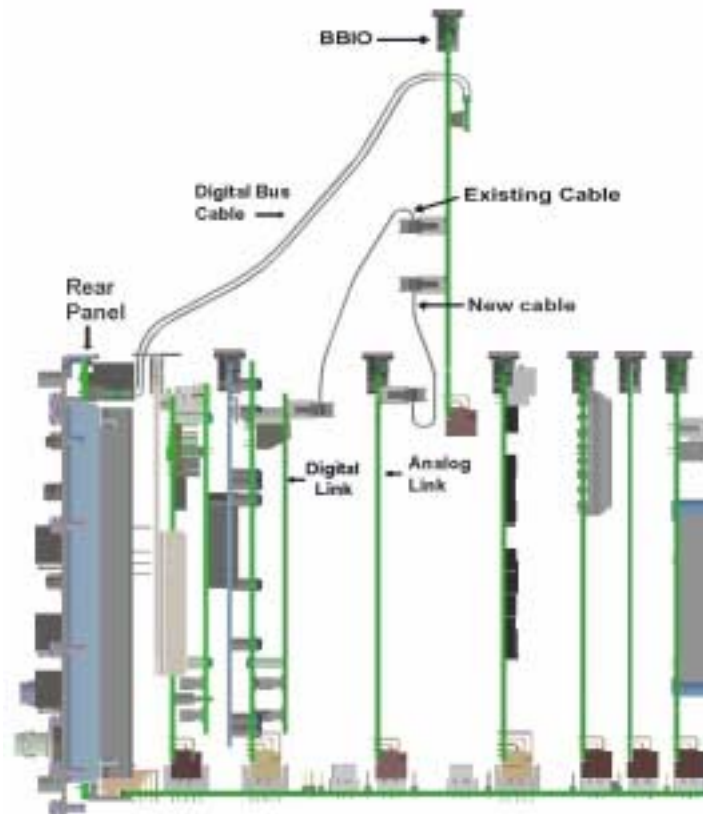

Figure 3
Install the BBIO (see Figure 3)
2. Connect the Old Cable (E5515-61209) from the Digital Link to the BBIO board. (see figure 3)
3. Connect the New Cable (E5515-61209) from the Analog Link to the BBIO board. (see figure 3)
4. Connect the Shielded Coaxial Ribbon Cable (8121-1335), Digital Bus Cable as seen in Figure 3, from the BBIO to the Rear panel board. Tie both ends with the zip ties.